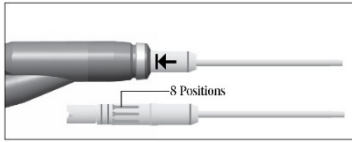

Fig. 1
5.1 Shaver Blade attachment (fig. 1)
- Gently insert the blade into the Handpiece up to the thrust stop; the clamping band should retract and then return to the starting position in **fig. 1**. If the blade is not correctly in place and the joint is still visible, remove it and start insertion again.